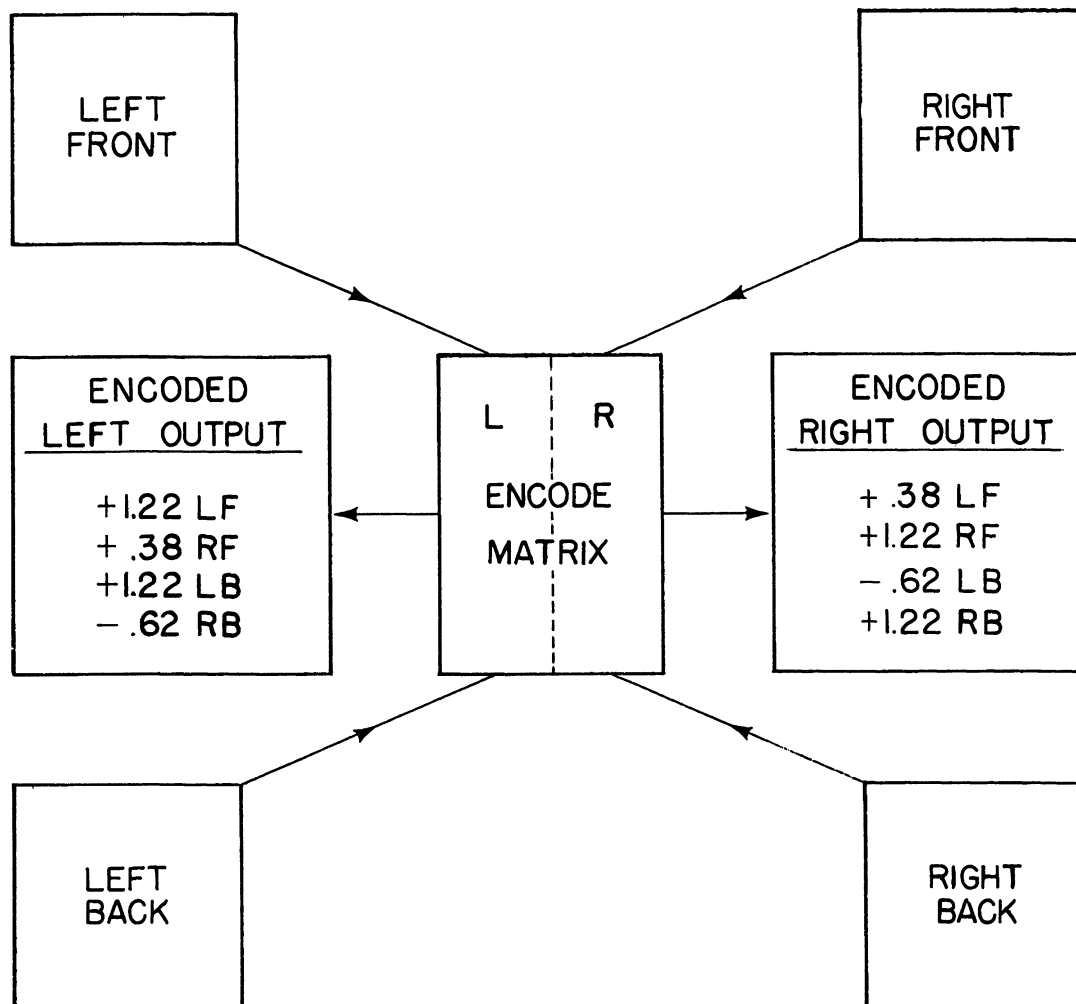

FIGURE 6
In figure 6 we show four separate sources of sound: Left-Front (LF), Right-Front (RF), Right-Back (RB), and Left-Back (LB). As you will note, a certain ratio of each source (LF, RF, RB, and LB) is fed to a matrix. The resultant mixtures, or "encoded" signals, are available at the "L" and "R" outputs. We now have "L" and "R" outputs which are compatible with current media, that is, we can record on discs, tape, or can broadcast encoded signals on FM stereo.
Let us restate the data from figure 6 which represents the output of the encoder (L' denotes encoded L, R' denotes encoded R, and $\cong$ denotes an approximate value):